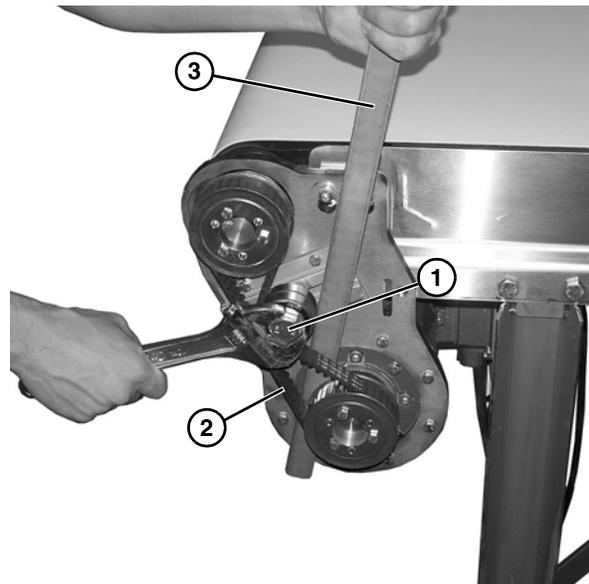

Figure 12
2. Loosen tensioner screw (**Figure 12, item 1**).
3. Tension timing belt (**Figure 12, item 2**) sufficiently to prevent belt skipping. A pry bar (**Figure 12, item 3**), may be used, as shown, to assist in belt tensioning.
4. Tighten tensioner screw (**Figure 12, item 1**) to secure position.